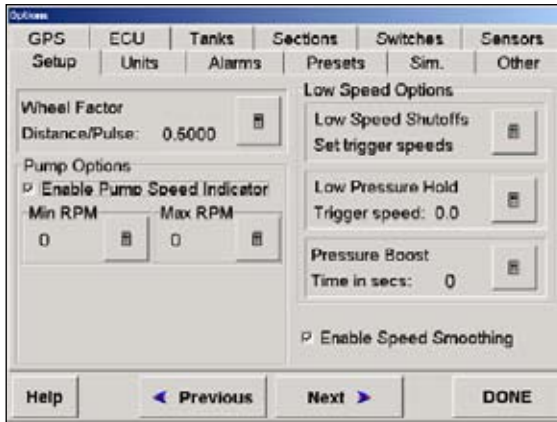

Figure 8-16. Options>Setup Page
1. Select the **calculator** icon in the *Wheel Factor* window (Figure 8-16).
3. Press **ENTER** to save changes and return to the **Setup** page (Figure 8-16 on page 8-46).
Selecting the **calculator** icon in the *Low Speed Shutoffs* window (Figure 8-16 on page 8-46) opens the *Low Speed Shutoffs* screen.
Select the **calculator** icon in the **Low Pressure Hold** window (Figure 8-16 on page 8-46) to enter the value (in kph). Select **Enter** to save the value you entered and close the window.
Select the **calculator** icon in the **Pressure Boost** window (Figure 8-16 on page 8-46) and enter the value (normally 2-3 seconds).
Select **Enable Pump Speed Indicator** (Figure 8-16 on page 8-46) when a speed sensor is fitted to the pump to readout the RPM of the pump shaft.